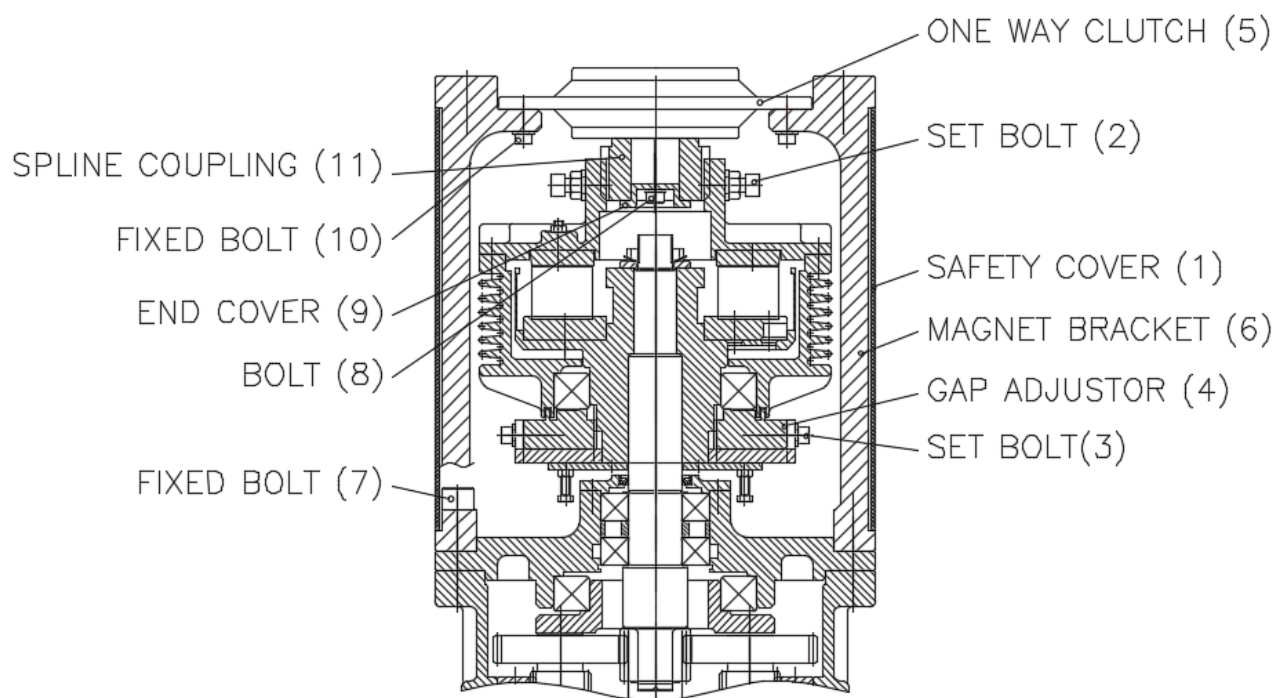

Figure 9. Change of Rotate Direction of One Way Clutch
- With seeing the section drawing of FiG. 9 Magnet Coupling, doing the work as following procedures.
- 1) Detach the safety cover (1) of coupling.
- 2) Unfasten the fixed bolt (2) and detach the motor and magnet bracket (3).
- 3) Unfasten the bolt (4) on motor shaft and detach the end plate(5), and after unfastening the bolts (6) for motor fixing detach the motor.
- 4) After disassembling the snap ring (11) in the clutch housing (7) and taking out the clutch, If the assembling is done to the contrary again, the rotational direction will be changed.